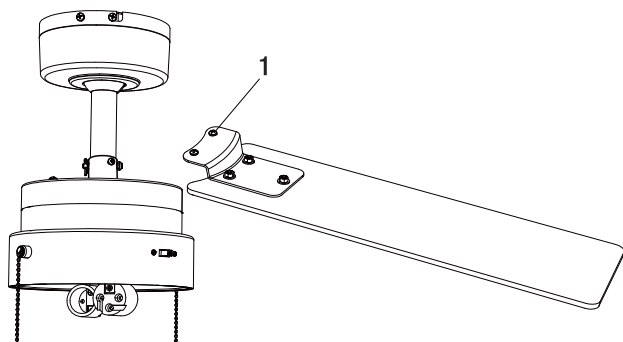

Figure 7
- Position the blade holder (D) above the motor so the two pre-installed screws (1) on the blade holder fit into the holes on the motor (Figure 7). Tighten the pre-installed blade holder screws (1).